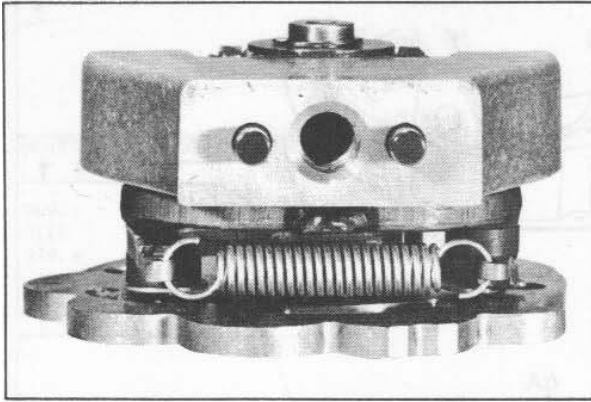

Figure 4-26. Pawl Carrier and Cam Assembly (1972 and Later)
1972 and Later Models: Install pawls (9A) on pawl carrier (6A), using spacers (9C) so that holes for spring hooks will be in alignment. One spacer will be on outside of pawl and the other will be underneath pawl as shown in Figure 4-26. Install pawl retaining ring (9D) and spring (9B). Assemble shifter cam (5) in pawl carrier (6A) retracting pawls one at a time to do so. Install assembly into support (7) with ear of carrier (6A) between ends of springs (8). Install washer (4) and new retaining ring (3). Operate cam (5) to make sure pawls operate correctly engaging with ratchet of cam.